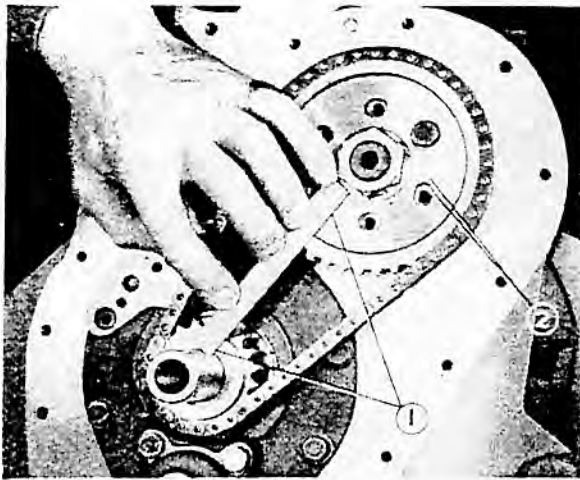

FIG. 131 TIMING MARKS
6. If the camshaft chainwheel has to be extracted separately without its centre, first confirm that the chainwheel and centre are marked as indicated in Fig. 131, if not, mark both parts with punch dots as shown, otherwise resetting will be necessary. However, should the timing chain be renewed, resetting will probably be required, see "Camshaft Chainwheel and Centre", page C.118.
A. The following procedure assumes that the adjacent teeth of the camshaft and crankshaft chainwheels are marked as shown in Fig. 131.
5. Fit chain, securing camshaft chainwheel to centre, with punch dots coinciding, by means of six set screws on flat and lockwashers, accurately aligning scribe marks on crankshaft and camshaft chainwheels as shown in Fig. 131.
B. The following procedure assumes that neither crankshaft nor camshaft chainwheels nor the camshaft centre are marked as shown in Fig. 131.
8. Select this position by swivelling the camshaft chainwheel within the chain, until, with the above conditions applying, the positive locating screw hole aligns with one of the six holes in the chainwheel centre. During this operation, ensure that all the slack links in the chain are on the chain tensioner side. Record the correct position by marking chainwheel and centre as shown in Fig. 131. Fit remainder of screws over flat and lockwashers.
9. Mark camshaft and crankshaft chainwheels as shown in Fig. 131.
To cater for this and allow for variations in chain length both in production and when fitting a service replacement, the chainwheel is secured to its centre by fixing screws and their spacing allows for 1½° stages of vernier adjustment. The chainwheel has one positive hole and five elongated slots, punch dots as shown in Fig. 131, indicate the relationship.